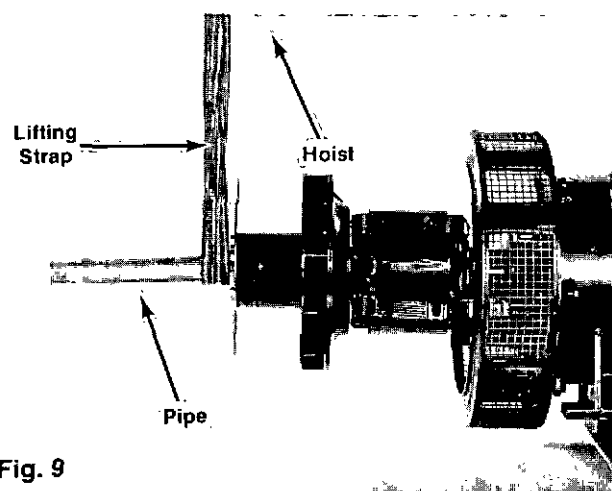

Fig. 9
7. Slide a pipe, that is slightly larger in ID than the shaft extension OD, over the shaft extension (see figure 9). Wrap a suitable lifting strap around the shaft between the fan and the rotor core. Connect the lifting strap to a suitable hoist (1000# or more in capacity).